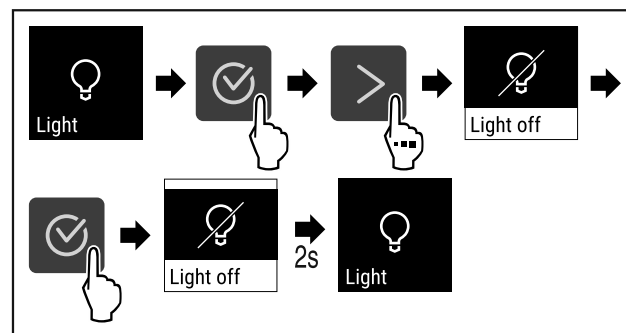

Fig. 85
- ▶ Carry out steps (see Fig. 85) .